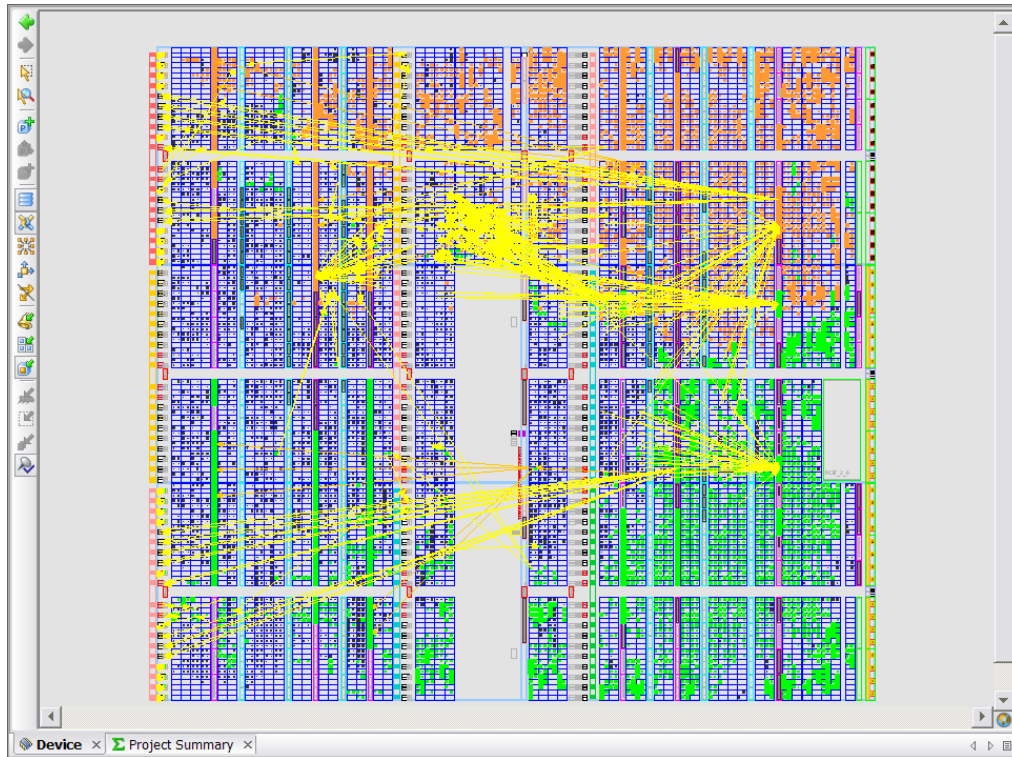

Figure 11: Device View after Selecting Show Connectivity
- 1-3-8. Look at the results of the previous two steps in the Device view (Figure 11).